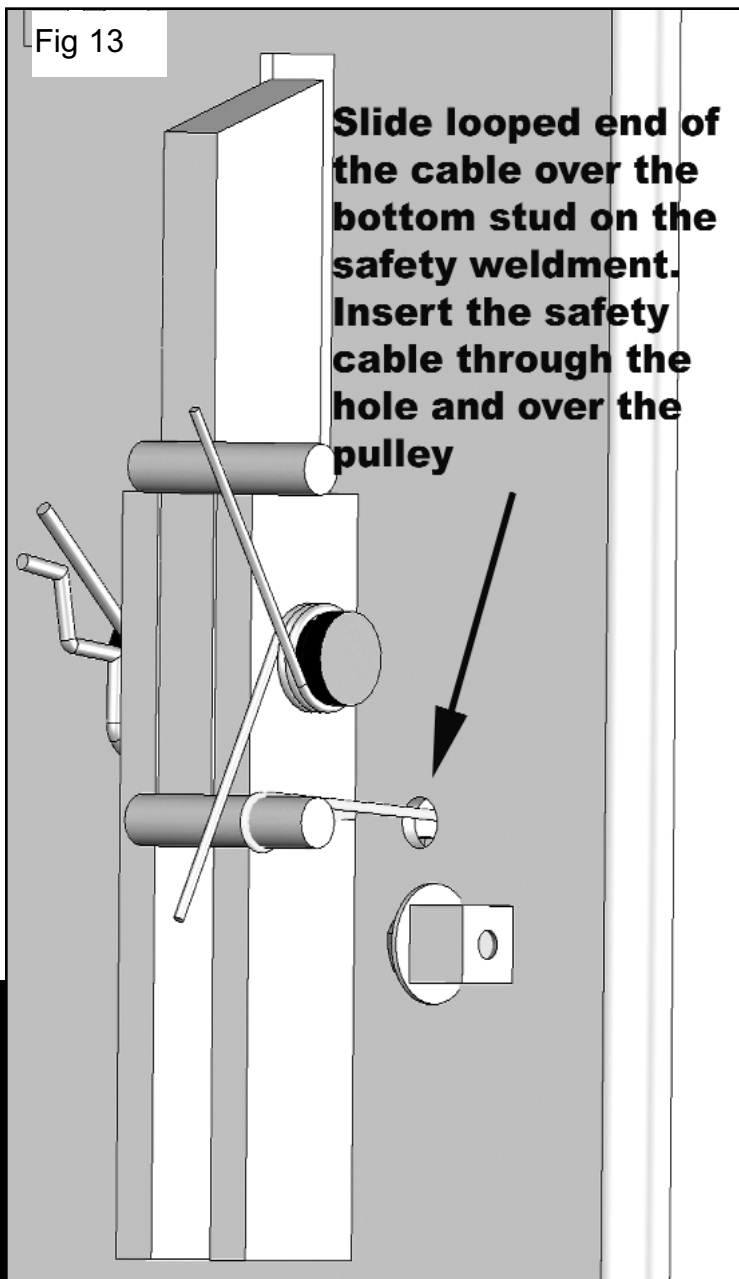

Fig 13
2. From the offside column insert the non looped end of the safety cable through the hole located to the right of the offside safety weldment. (Fig 13)